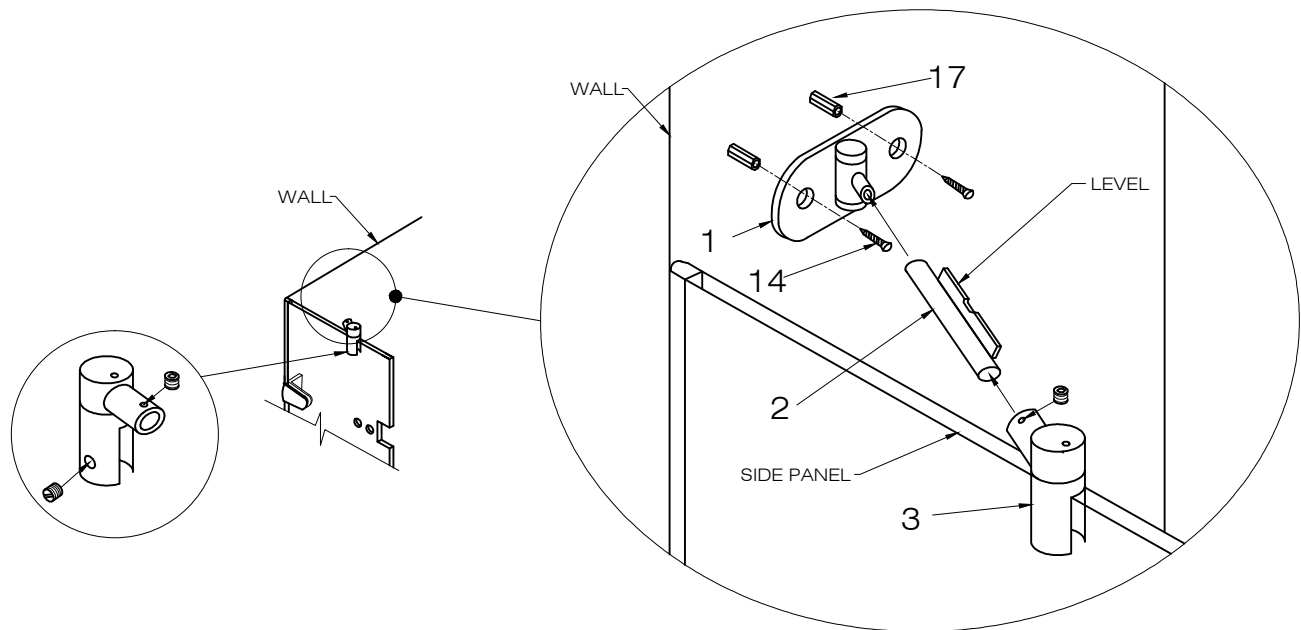

FIG.9
1. Install the support assembly (#3) onto the side glass panel (#4) approximately two-thirds away from the wall. Use hex key to tighten to screws. [SEE FIG.9]